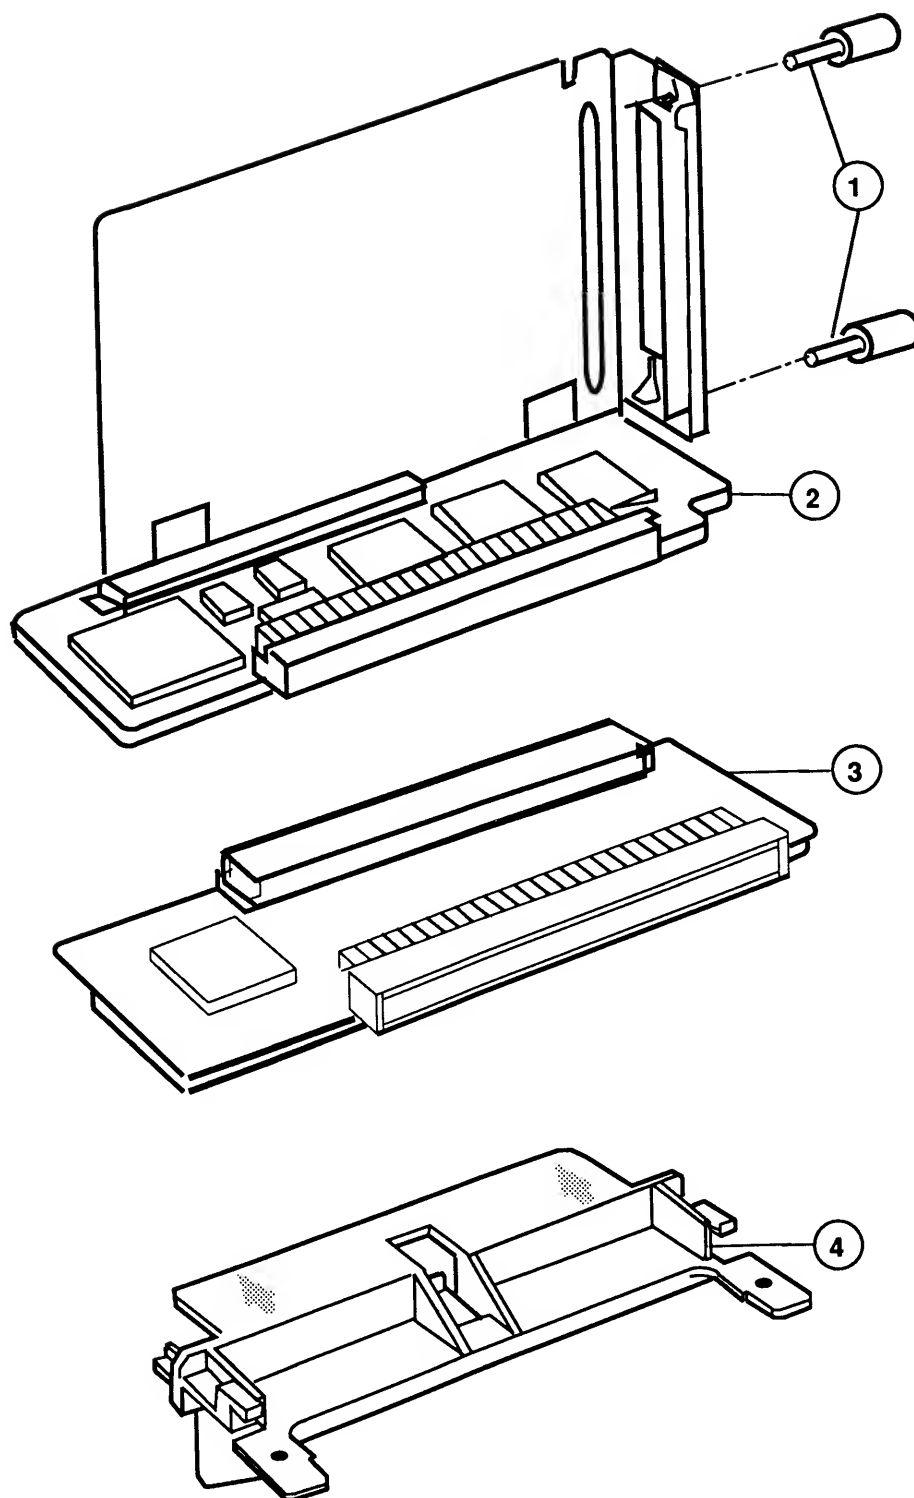

FIGURE 2
- IPL.5 Adapter Cards (Figure 2)
☐ **ADAPTER CARDS (Figure 2)**